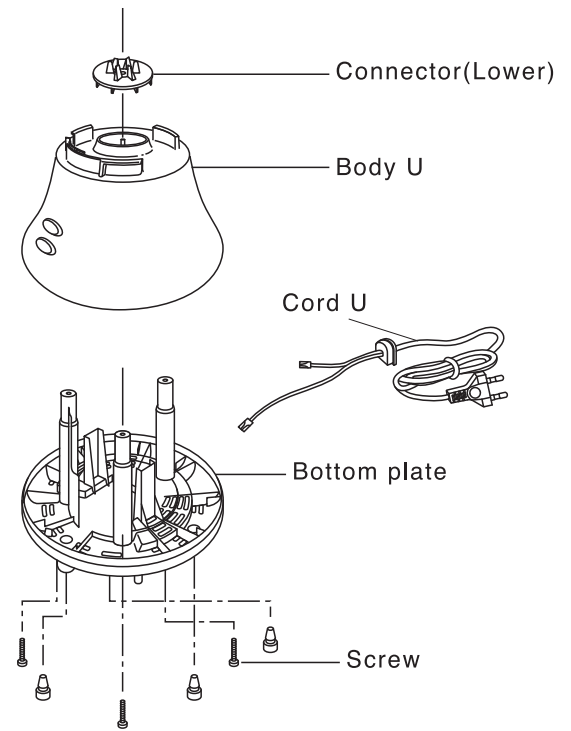

Fig. 4
5.3. Botton plate, Body U and Cord U - Fig. 4